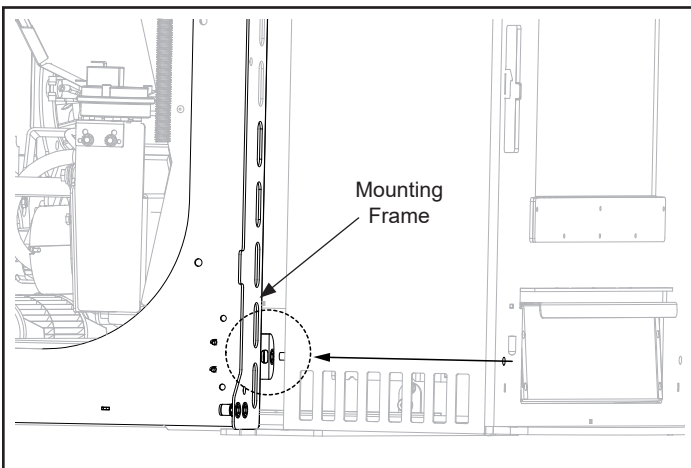

Figure 2.9 - Align bolt with tightening nut.
m. Slide unit back into the mounting frame to within an 1/8" of the surround face. Insert the allen wrench driver through the holes in the front of the unit and push bolt inward until you see it align with the tightening nut located on the mounting frame. While pushing inward tighten bolt, Figure 2.9.